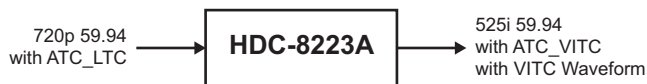

Figure 13 Down Converting 720p to 525i
Figure 13 is an example (A) in which received 720p 59.94 SDI video is down-converted to 525i 59.94.